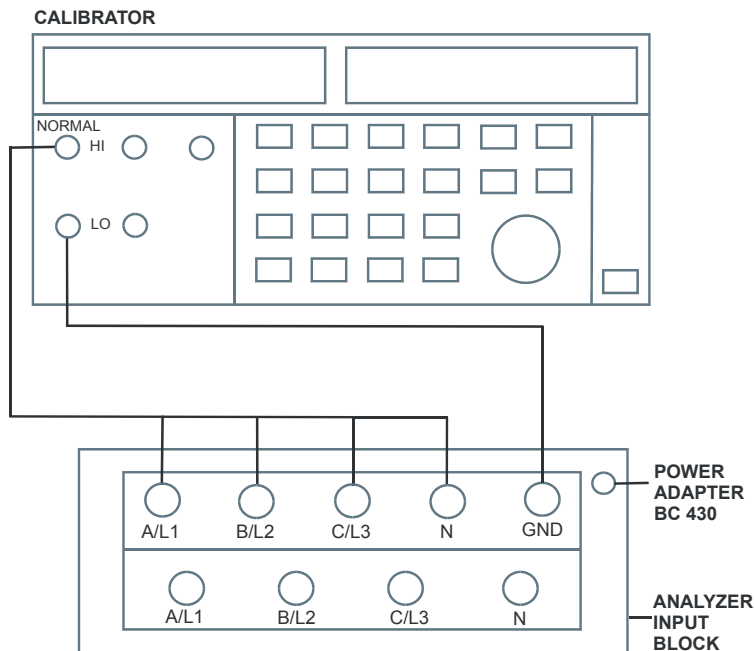

Figure 3-4. Checking the N (Neutral) voltage input
2. To check the N input, connect the N input with the adjacent C/L3 input. A/L1, B/L2, C/L3 now will give zero reading. Refer to Figure 3-4.
11. Connect the N input with the C/L3 input (See Figure 3-4). A/L1, B/L2, C/L3 now give zero reading.
- Connect the N input with the C/L3 input (See Figure 3-4). A/L1, B/L2, C/L3 now give zero reading.